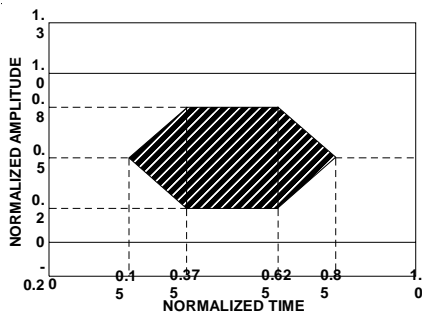

Figure 1. Transmitter optical eye diagram mask.
4. Laser transmitter pulse response characteristics are specified by an eye diagram (Figure 1). The characteristics include rise time, fall time, pulse overshoot, pulse undershoot, and ringing, all of which are controlled to prevent excessive degradation of the receiver sensitivity. These parameters are specified by the referenced Gigabit Ethernet eye diagram using the required filter. The output optical waveform complies with the requirements of the eye mask discussed in section 38.6.5 and Fig. 38-2 of IEEE 802.3z.